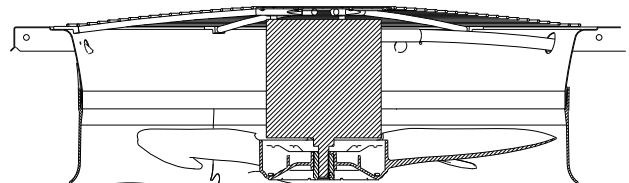

Fig. 39 – Condenser Fan Adjustment
2. Remove condenser-fan assembly (grille, motor, and fan). (See Fig. 39.)